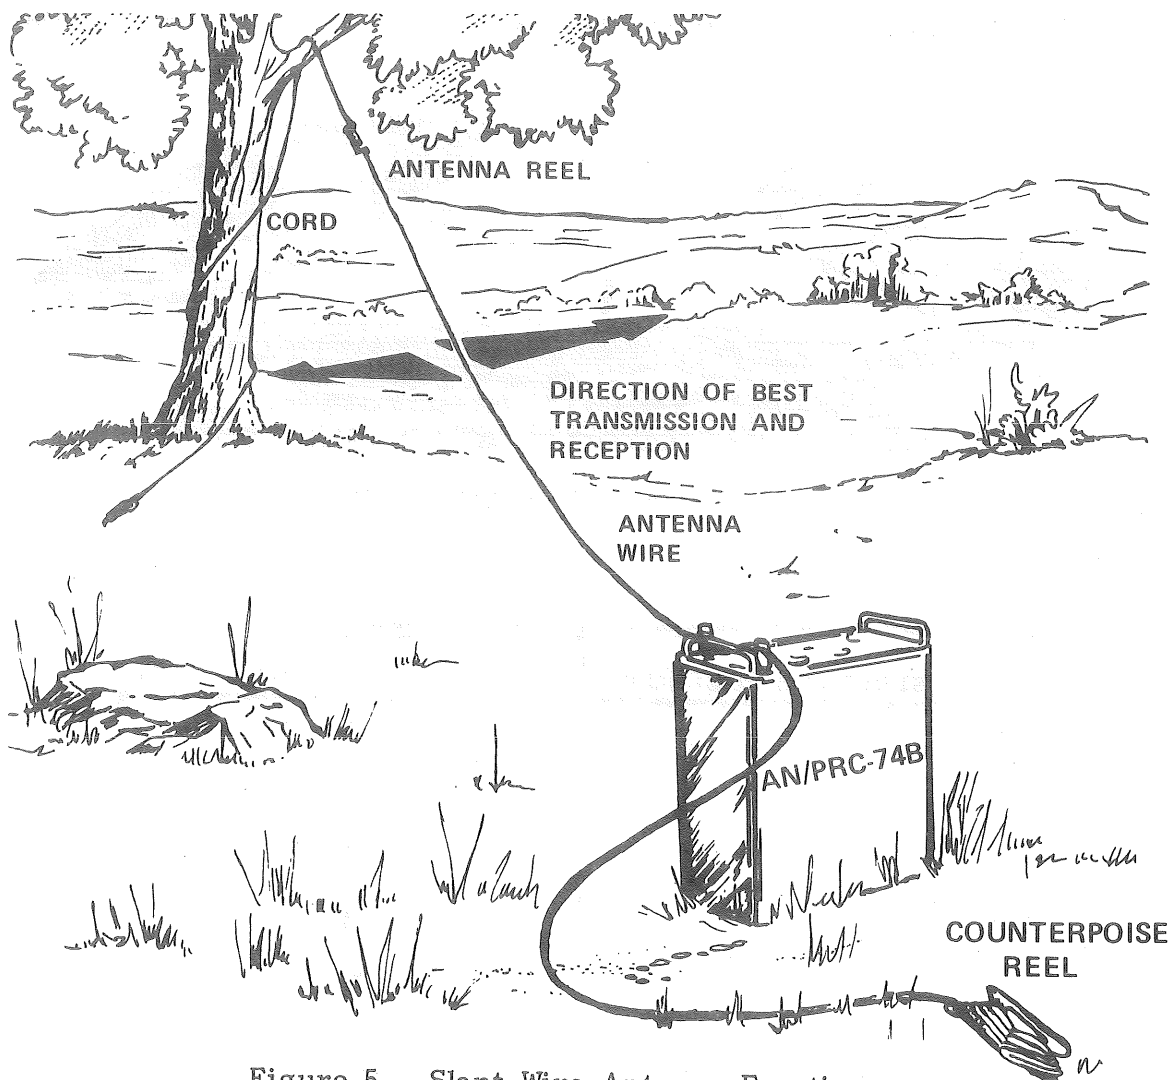

Figure 5. Slant Wire Antenna Erection.
- e. Attach a weight to one end of dacron cord provided with antenna kit; throw the weight over any convenient antenna support, and raise antenna broadside to receiving station as shown in figure 5.